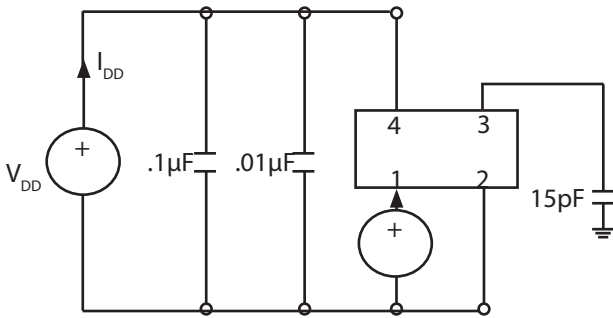

Fig 1: Test Circuit
2] Parameters are tested with the test circuit shown Figure 1.
- 2] Parameters are tested with the test circuit shown Figure 1.